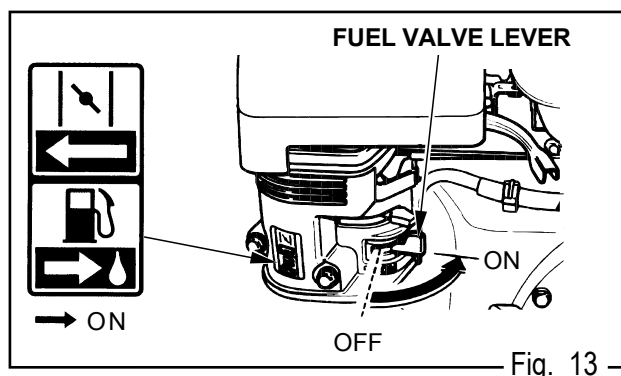

Fig. 13
1. Move the fuel valve lever to the ON position. (Fig.13)